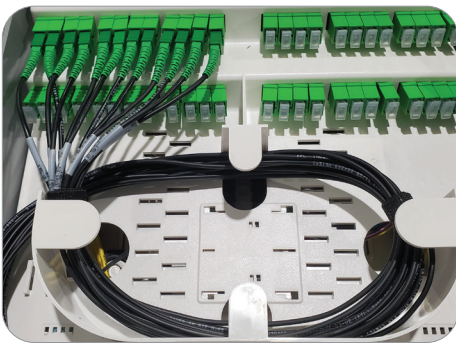

Figure 110
5. Continue to fully populate the rest of the drops, using Velcro to route and organize the drops (**Figures 110 and 111**).